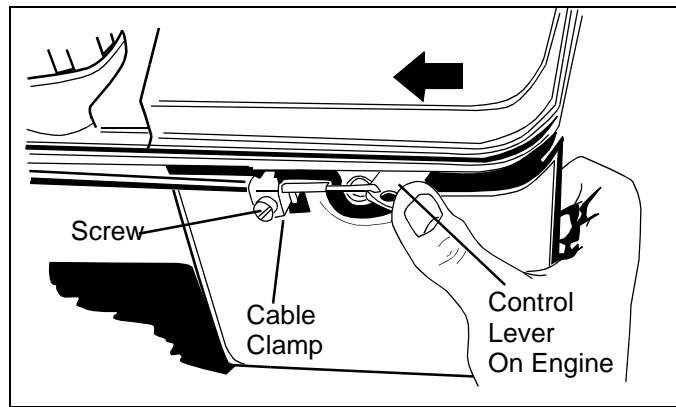

Figure 7
- Remove the screw shown in Figure 7. Remove the cable clamp from the cable.